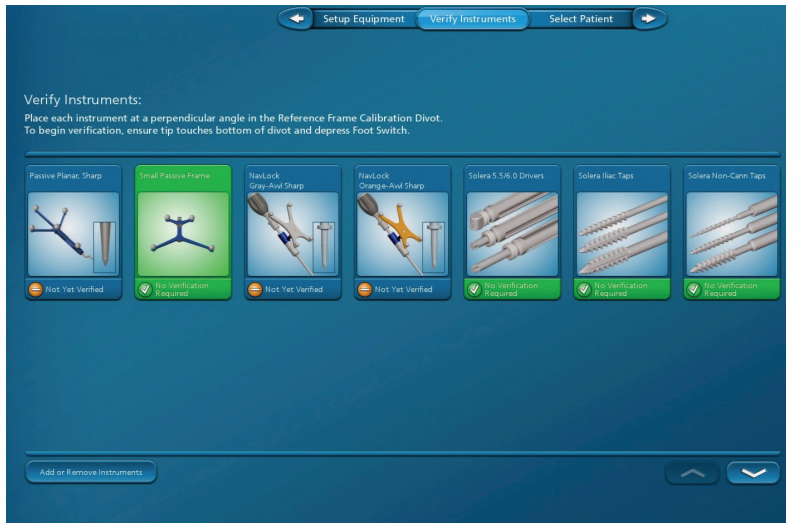

Figure 2
- To add a toolcard to the case, navigate to the “Verify Instruments” screen and click the “Add or Remove Instruments” button (Figure 2).